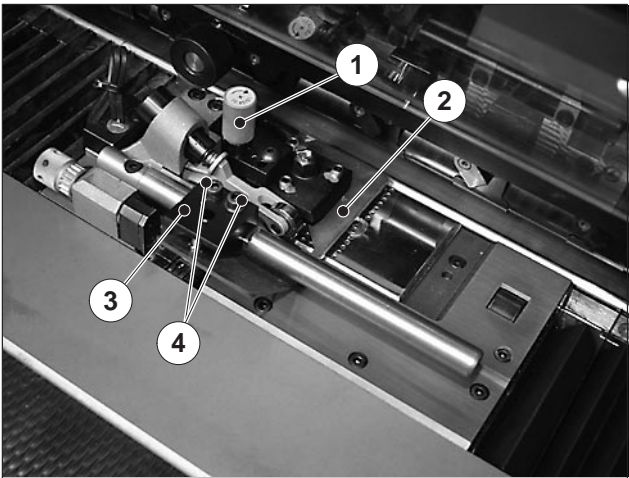

Fig. 67 Retainer on the pull lay
2. Using the knurled head screw (Fig. 67/1), adjust the height of the retainers (Fig. 67/2).
1. Loosen and remove the two screws (Fig. 67/4) on the guide block.
2. Remove the guide block (Fig. 67/3).
3. Using the knurled head screw (Fig. 67/1), set the retainer to the topmost position.
5. Install the guide block (Fig. 67/3).
Secure the guide block with the two screws (Fig. 67/4).